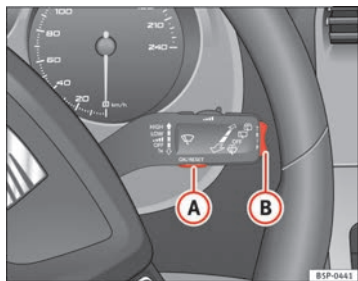
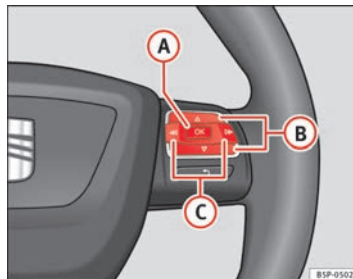

Fig. 44 Windscreen wiper lever: button A to confirm the menu selection and rocker switch B to change the menu
Fig. 45 Steering wheel controls: button A to confirm the menu selection and switch B to change the menu
⇒ page 68, fig. 45 until the menu is displayed. Now you are in this menu.
- To change from one memory to another, briefly press button **A** ⇒ page 68, fig. 44 ⇒ page 68 on the windscreen wiper lever or the **OK** button on the multifunction lever ⇒ page 68, fig. 45 ⇒ page 68 while the ignition is switched on. ▶
The following data can be viewed on the multifunction display using the rocker switch **(B)** ⇒ page 68, fig. 44 ⇒ page 68 on the windscreen wiper lever or by pressing button **(Δ)** or **(▽)** ⇒ page 68, fig. 45 on the multifunction steering wheel*.